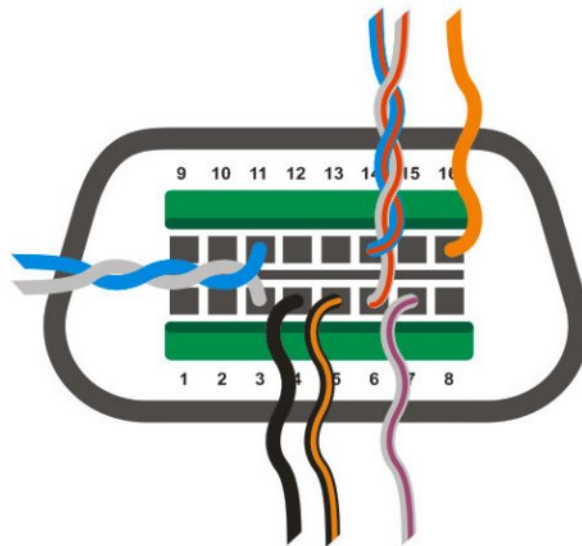

Figure 12
- Connect the module to the vehicle's wiring according to the scheme at the fig.1. Connect the module to the receiver unit of remote control, according to the schemes at the figures 3-9. Make task specific connections, if necessary. The module is powered and connects to the CAN-bus wires near the service connector by quick splice connectors (supplied). The backside view of the service connector presented at the fig.12.